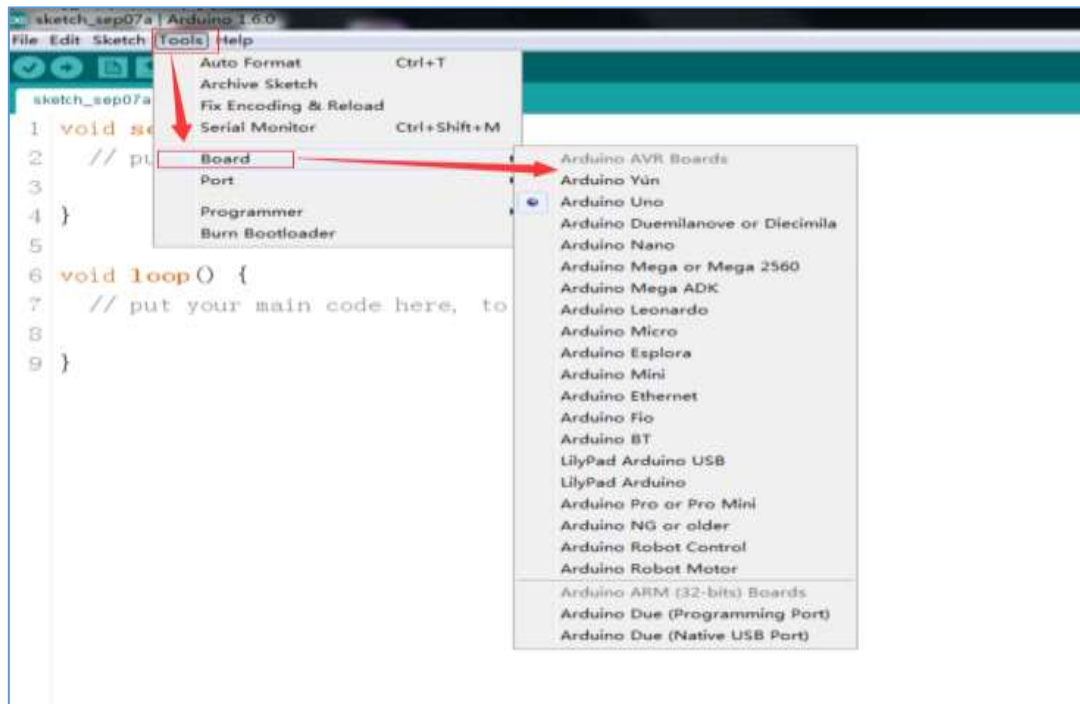

Figure 2.1.14 Tools interface
3. Click Tools, the interface shown in Figure 2.1.14 will pop up. Here we can see two options: Board and Port. In the board option, we can see the commonly used Arduino development board model, we only need to choose according to their own development board. In the Port option, the USB serial port is mainly selected, as shown in Figure 2.1.15. If you are not sure, you can check it in the "Device Manager" and select the corresponding COM port.